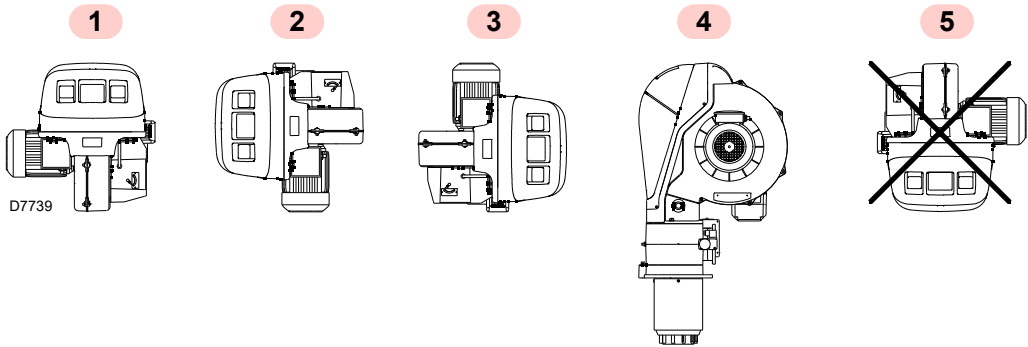

Fig. 11
- The burner is designed to operate only in positions 1, 2, 3 and 4 (Fig. 11).